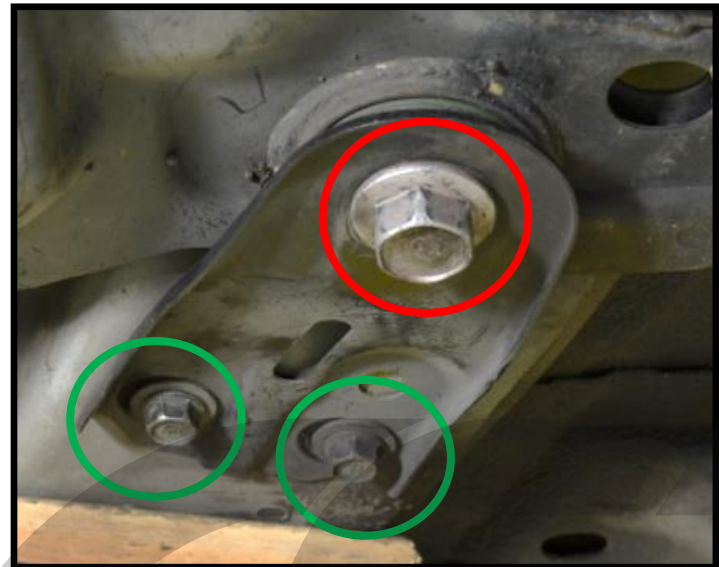

Figure 3f
g) Line up the bolts shown with **red circles** in **Figure 3e** and **Figure 3f**. Hand thread in the bolts. Do not tighten until all four main bolts are installing.
i) Install the two (2) 21mm bolts (shown by the **red circle** in **Figure 3f**) and brackets that were taken off. Again, hand tighten them.
j) Install the four (4) support brace bolts (shown by the **green circles** in **Figure 3f**). Again Hand tighten
k) First, Torque the 17mm bolts to 65-85ft.lbs. Next the 21mm bolts to 99-129ft.lbs. Finally the 12mm bolts to 17-22ft.lbs. Shown in **Figure 3e** and **Figure 3f**.